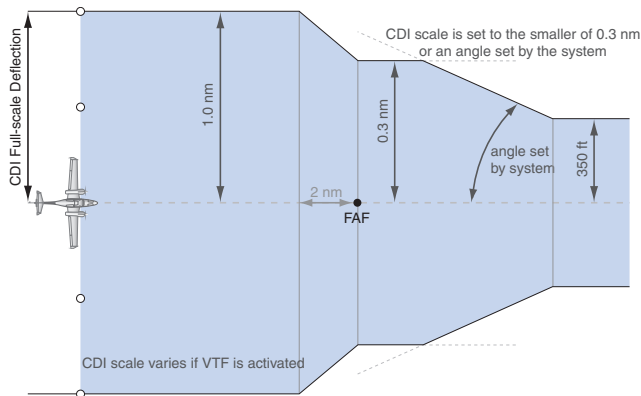

Figure 2-23 Typical LNAV and LNAV+V Approach CDI Scaling
- During **approach**, the CDI scale ramps down even further (Figures 2-23 and 2-24). This transition normally occurs within 2.0 nm of the final approach fix (FAF). The CDI switches to approach scaling automatically once the approach procedure is activated or if Vectors-To-Final (VTF) are selected.